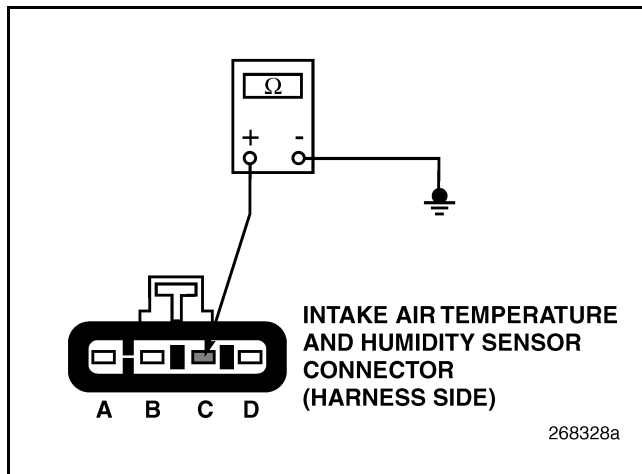

Figure 301
4. Check for continuity between pin C of the IATH Sensor harness connector and a good ground (see Figure 301).